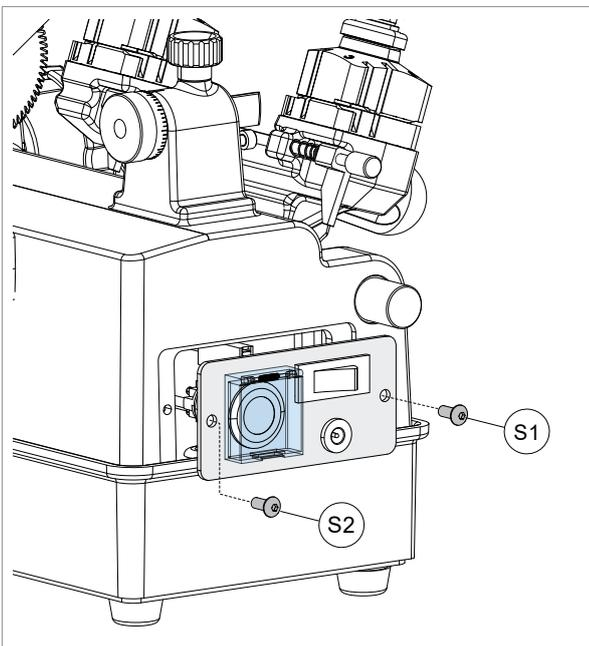

Fig. 42
**⚠ ATTENTION:** turn off the machine with motor switch (T), turn off main power switch (N), close the switch protection cover (N1) and check that it is NOT connected to the battery.
- 2) Place the machine in upright position and unscrew (S1) and (S2) screws to open the plate, as shown in Fig. 42.